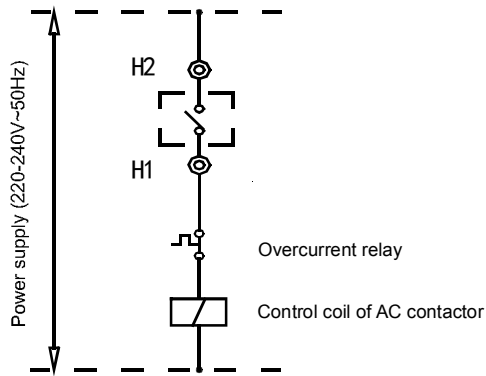

Fig. 5-2
Step 10. Connection of control wires of auxiliary electric heaters: the control wires of AC contactor of the auxiliary electric heater must pass the connection terminals H1 and H2 of the main unit, as shown in *Fig. 5-2*.